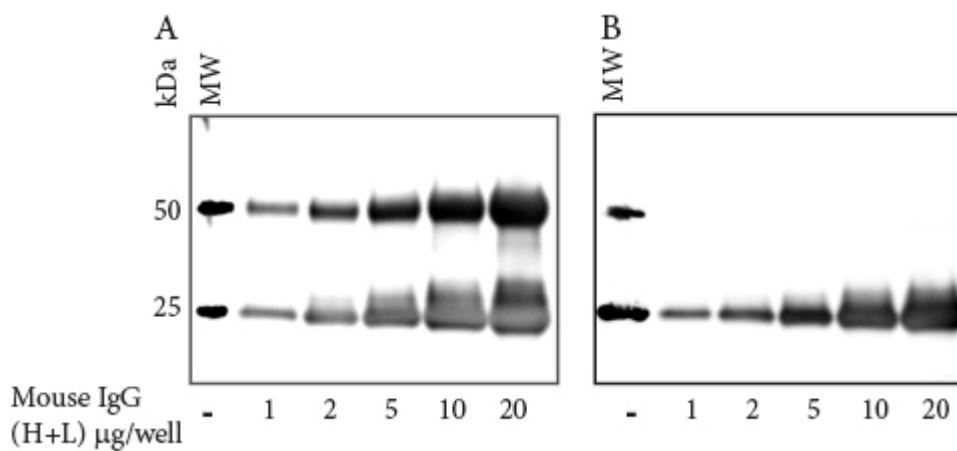

Figure 1: Western blotting after IP - Anti-Light Chain specific antibodies to avoid obscuring analytes in the 50 kDa range.
Is the IP antibody from the same host animal as the primary (probing) antibody?	Secondary antibody detection of the heavy chain of the IP antibody may obscure detection of a protein of interest in the 50 kDa range. Use an anti-IgG, Light Chain Specific secondary antibody to avoid recognizing the heavy chain of the primary antibody (Figure 1 (B)).